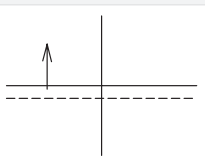

Fig.4
4. Mount Adjustment Tool on the Prism Assy with screws-C attached with Adjustment Tool along the guide on top of Prism Assy. See Fig.4